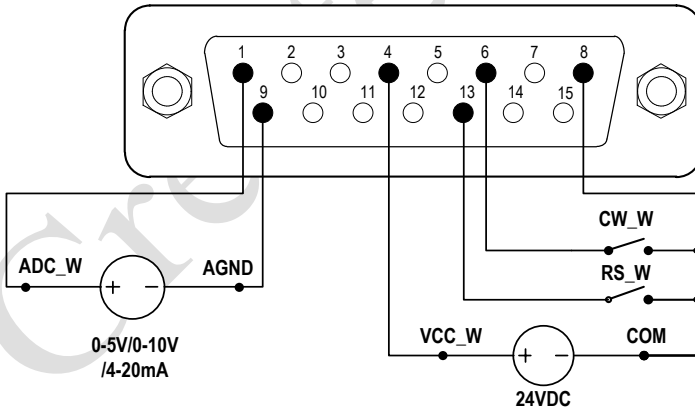

Figure 10
**Note:** If you want to use the external 24 V DC power supply to control the start stop and direction of the pump, you need to use the RS\_W and CW\_W series 1.5K resistor can be used, as shown in Figure 10, otherwise the internal circuit of the pump will be damaged.